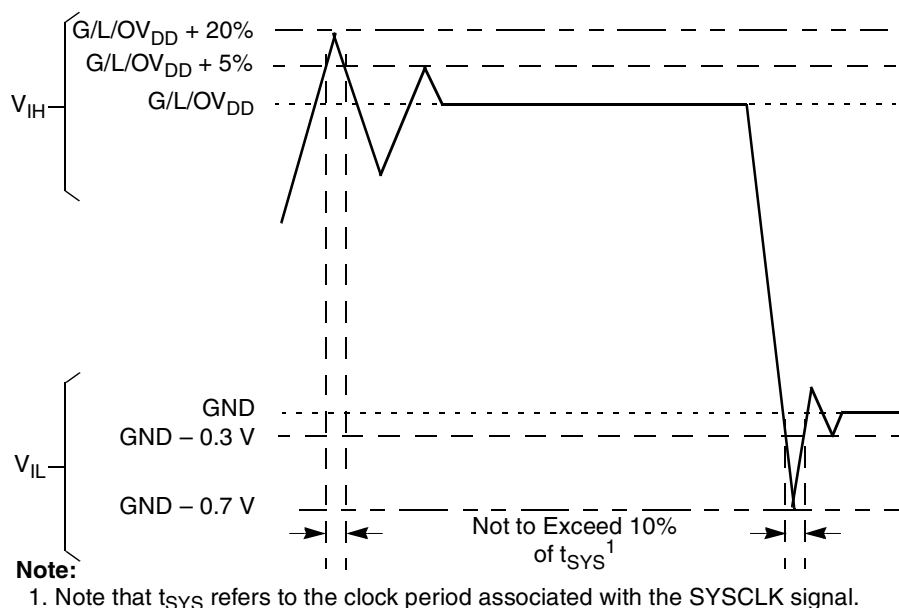

Figure 2. Overshoot/Undershoot Voltage for $GV_{DD}/OV_{DD}/LV_{DD}$
5. (M,L,O) V_{IN} and MV_{REF} may overshoot/undershoot to a voltage and for a maximum duration as shown in Figure 2.
Figure 2 shows the undershoot and overshoot voltages at the interfaces of the MPC8555E.